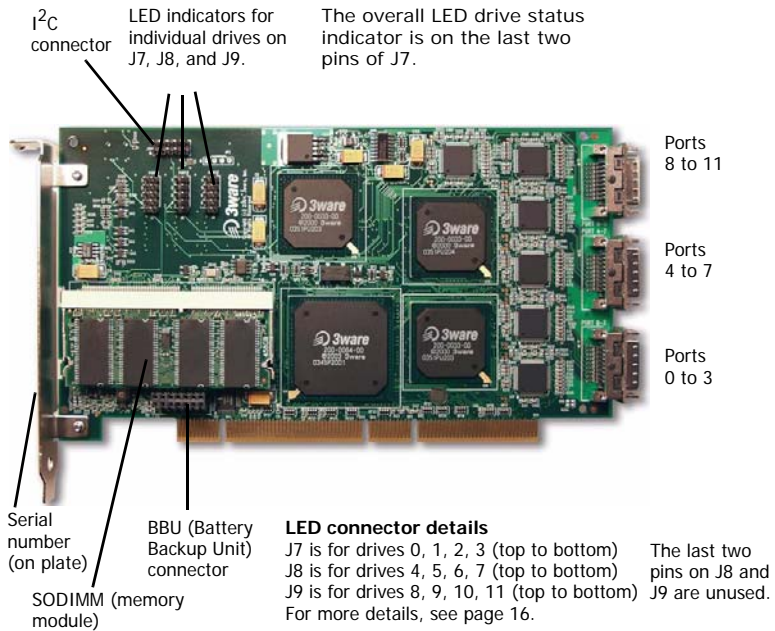

Figure 5. 12-Port 3ware 9500S-12MI Serial ATA RAID Controller
- 1 Connect each interface cable to a multi-lane connector on the controller. See Figure 5.